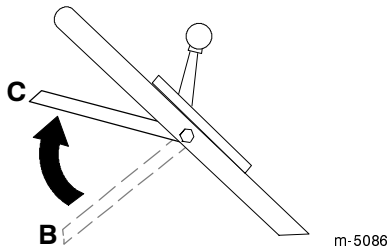

Figure 18
3. Bring the blade control bail up into the middle position about five inches (12.7 cm) below the handle cross bar (Position C in Fig. 18).
4. Release the blade control bail (Position B in Fig. 18).